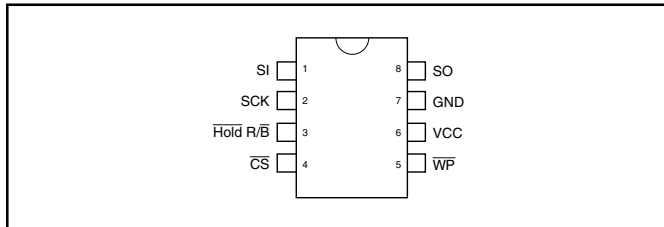

Figure 3A. NX25F011B and NX25F021B Pin Assignments, 8-Pin SOIC
The NX25F011B, NX25F021B, and NX25F041B are available in a 28-pin TSOP (Type I) surface mount package. The NX25F011B and NX25F021B are available in either an 8-pin SOIC and a 14-pin TSOP package (contact NexFlash for information on the 14-pin TSOP package). The NX25F041B is also available in a 28-pin SOIC package. See Figure 3A, 3B and Table 1 for pin assignments. All interface and supply pins are on one side of the TSOP package. The “No Connect” (NC) pins are not connected to the device, allowing the pads and the area around them to be used for routing PCB system traces. The devices are also available in a cost-effective and space-efficient removable Serial Flash Module package.